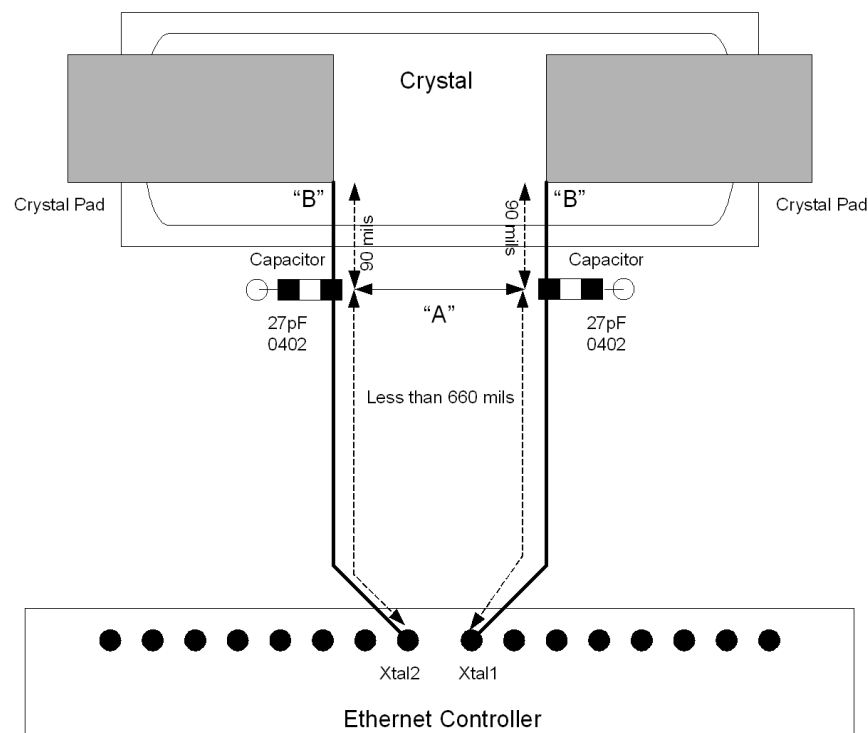

Figure 51. Recommended Crystal Placement and Layout
Figure 51 shows the recommended placement and layout of an internal oscillator circuit. Note that pin X1 and X2 refers to XTAL1 and XTAL2 in the Ethernet device, respectively. The crystal and the capacitors form a feedback element for the internal inverting amplifier. This combination is called parallel-resonant, because it has positive reactance at the selected frequency. In other words, the crystal behaves like an inductor in a parallel LC circuit. Oscillators with piezoelectric feedback elements are also known as "Pierce" oscillators.
- Place load capacitor solder pad directly in line with circuit trace (see Figure 51, point A).
- Route XTAL1 and XTAL2 traces to nearest inside corners of crystal pad (see Figure 51, point B).